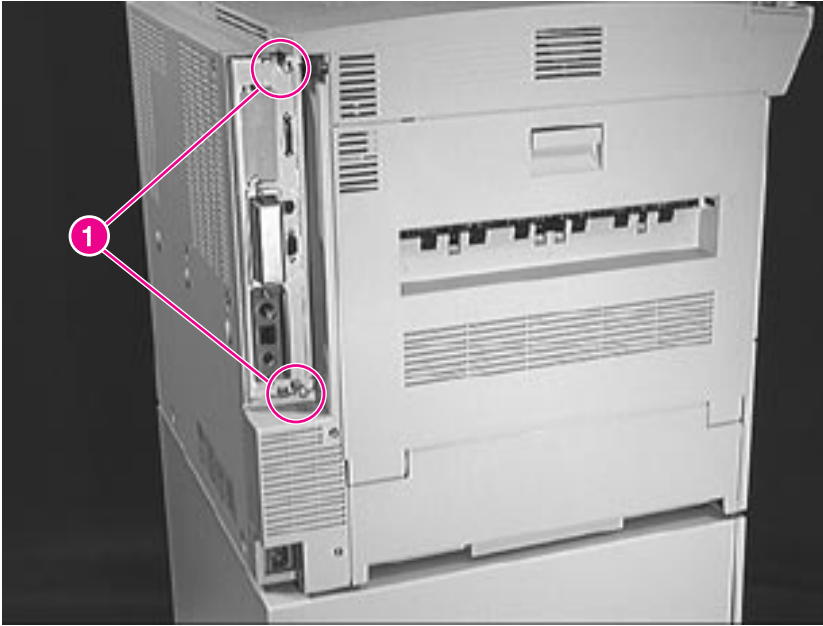

Figure 6-25 **Formatter Assembly**
- 2 Loosen the two captive screws (figure 6-25, callout 1), and slide the Formatter PCA out of the chassis.
- 1 Remove the Formatter Assembly (see figure 6-25 on page 186).
- Formatter Assembly (see figure 6-25 on page 186)